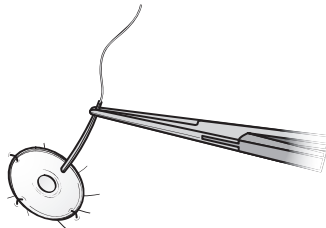

FIGURE 3
- Using a suitable resorbable suture, secure the disk of the GORE BIO-A Fistula Plug to the adjacent tissue, obtaining adequate bites of rectal wall to prevent device migration and minimize the potential for leakage of bowel contents into the fistula tract (Figure 3).